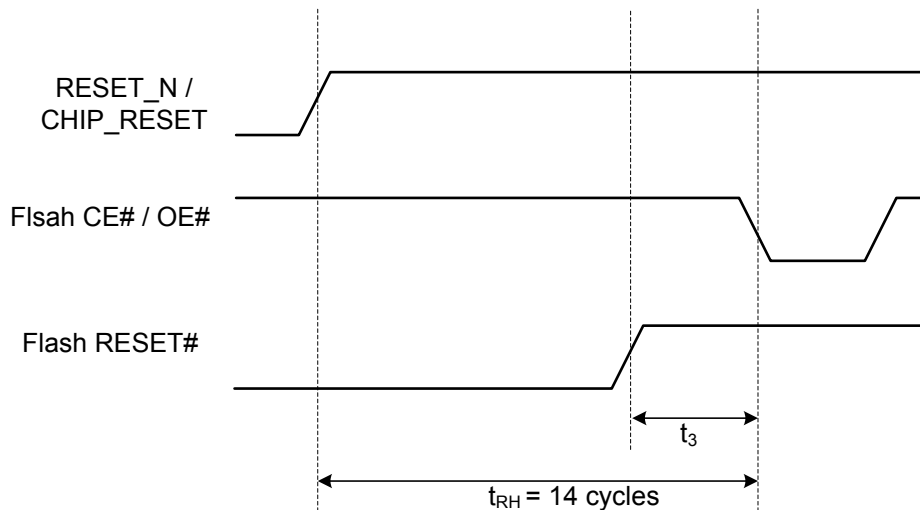

Figure 6. System Reset and Flash Reset
- **Hard Reset:** The system is in power-on state and receives a reset signal from the RESET_N pin. If Flash ROM could not be ready in 14 cycles, the system may malfunction due to an unknown instruction being fetched. The system designer should carefully handle this issue to prevent future mysterious bugs. The rule of thumb is to keep t_3 (refer to Figure 6) greater than t_{RH} . One simple approach is never to reset Flash ROM except via its own power-on-reset.